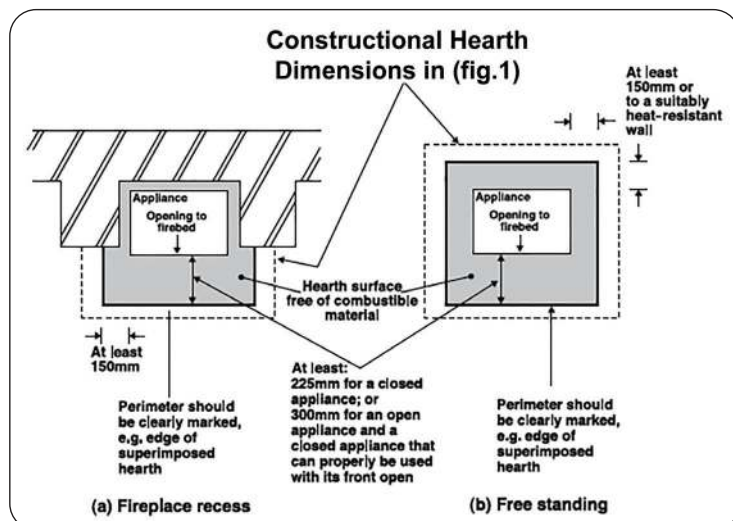

fig.2 Non Combustible Hearth surrounding Solid Fuel Appliance
**B.** Constructional hearths in accordance with the guidelines outlined. (fig.2)